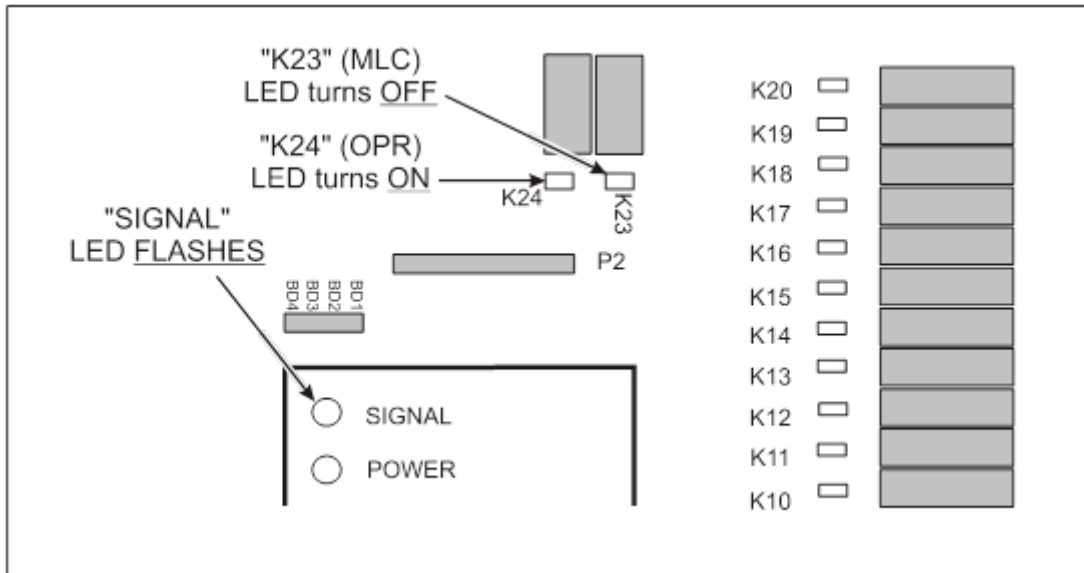

Figure 11: 21R22 Status LED Indicators – Transmitter ON
5. Verify that the K24 (OPR) LED turns ON and the SIGNAL LED FLASHES. Refer to Figure 11.